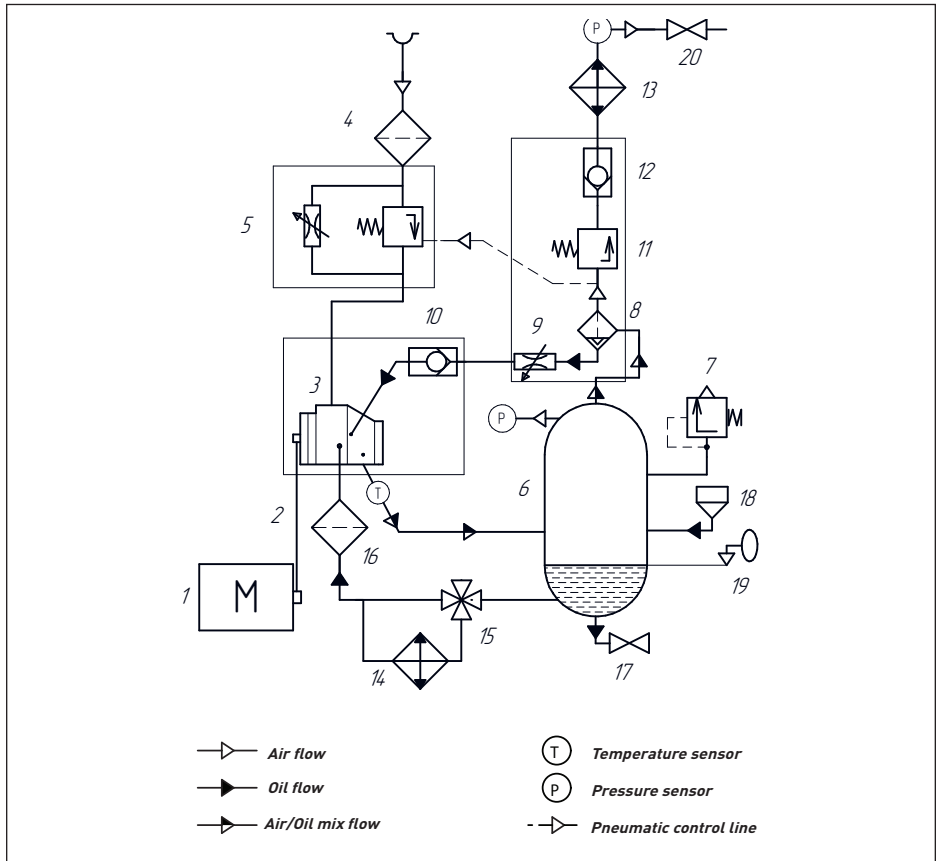

Fig. 2.3 Function diagram F75-90
2.4 Functional description (see Fig. 2.3)